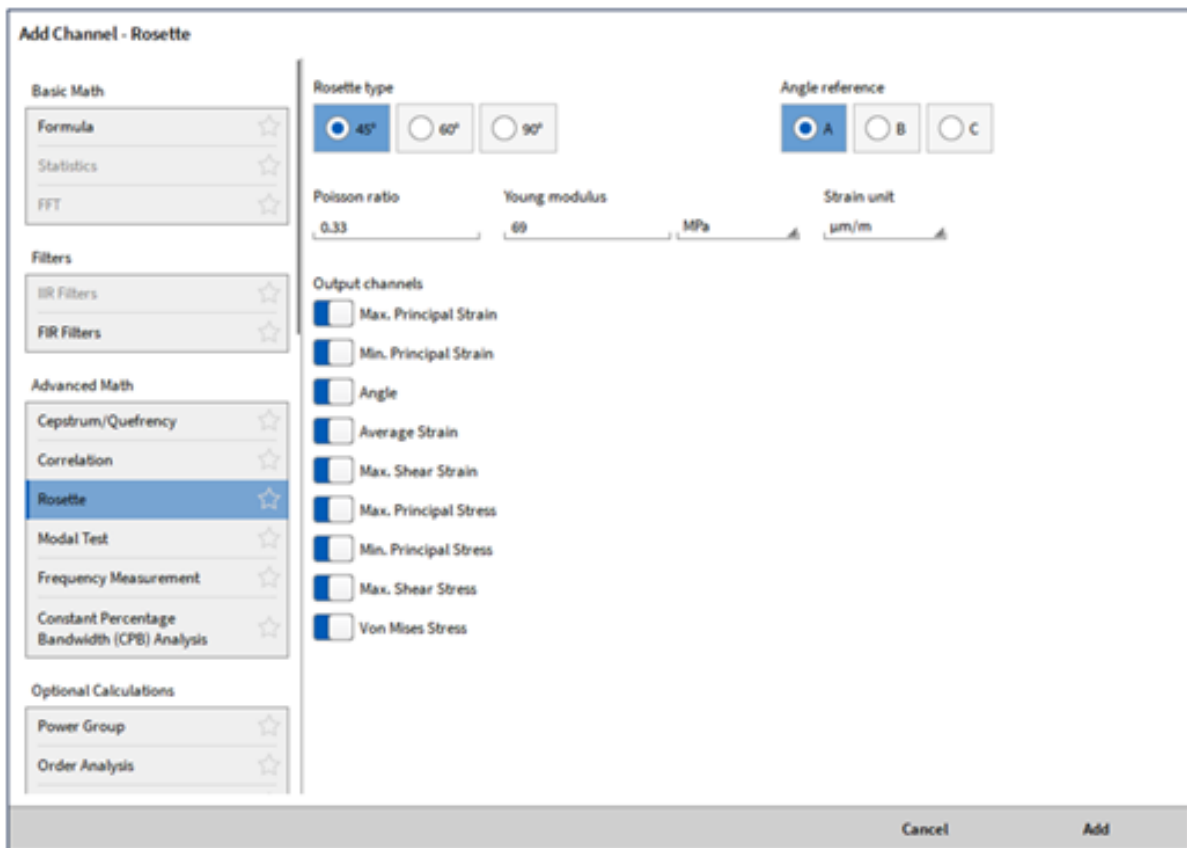
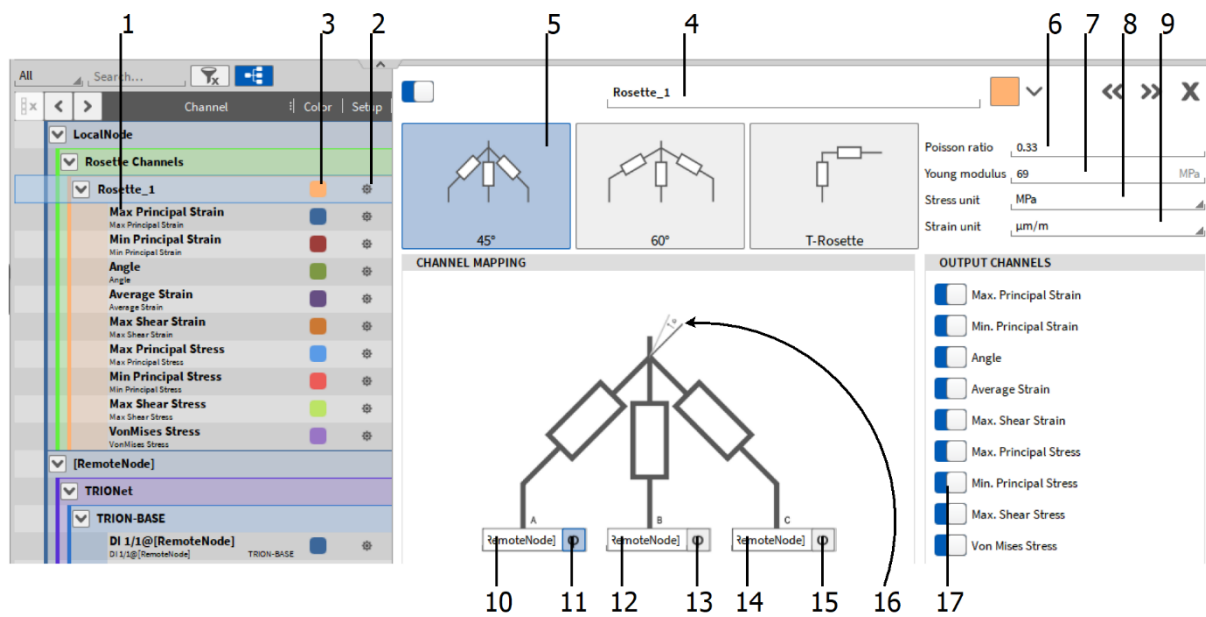
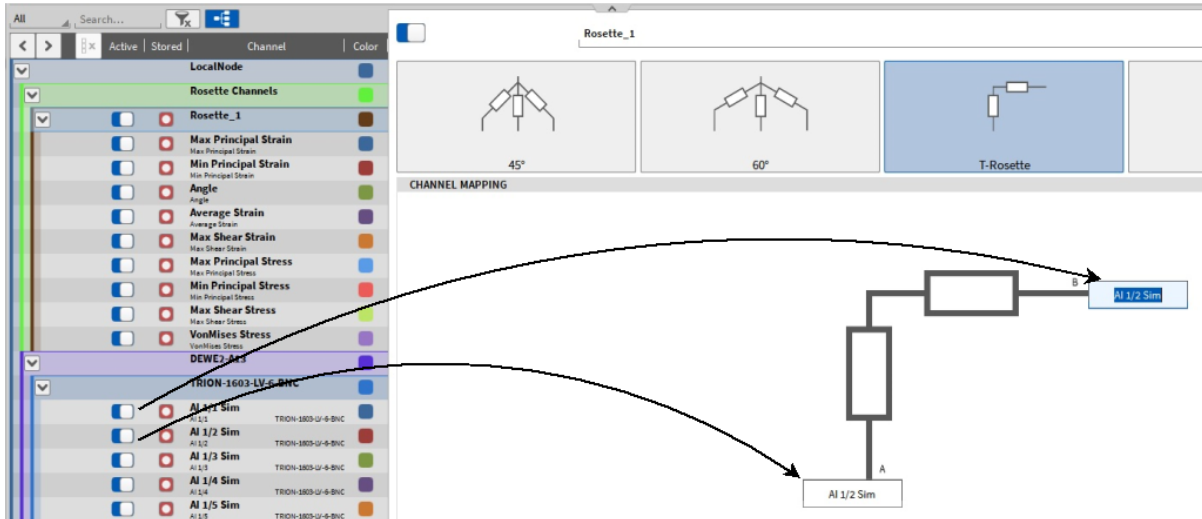

Fig. 7.108: Pop-up window for creating a Rosette calculation
Fig. 7.109: Rosette channel setup – overview
Fig. 7.111: Channel assignment in the rosette channel setup
For creating a Rosette channel, the user must click on the *Add* button in the lower left corner (marked red in Fig. 7.51) and a window will appear (see Fig. 7.108). To create a Rosette channel, select *Rosette*. After clicking on the OK button, a Rosette main channel (*Rosette\_1* in Fig. 7.109) with its Sub channels (*Max Principal strain* to *VonMises Stress* in Fig. 7.109) is added to the channel List. A click on the gear button of the main rosette channel will open the Rosette settings to perform changes afterwards (see Fig. 7.109).
The channel assignment can be edited after creating the Rosette calculation in the Channel setup of the main channel (see ⑩ in Fig. 7.109) by dragging and dropping the desired channel from the Channel List on the left-hand side to the individual input channel of the rosette calculation (see Fig. 7.111).
The sub channels (see ⑪ in Fig. 7.109) resulting from the rosette calculation have a Channel Setup that can be accessed via the Gear Button in the Channel List as well. But only the Channel scaling can be edited there.